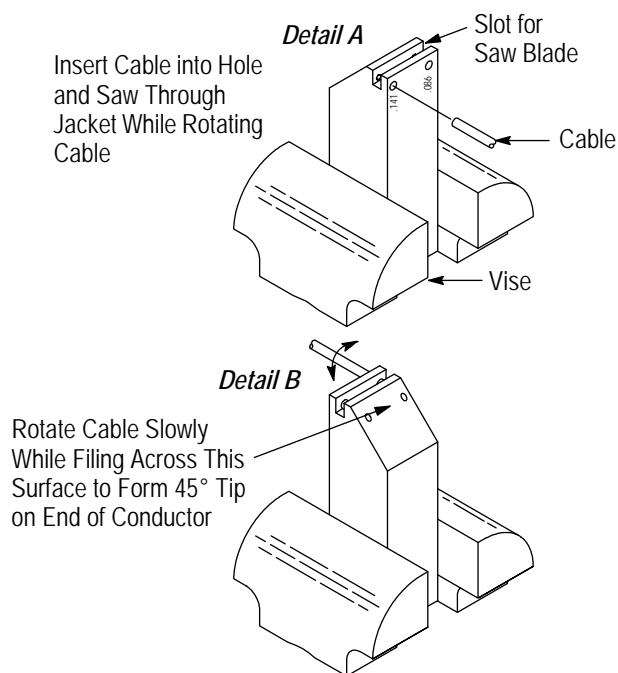

Figure 5
2. Insert the cable into the hole corresponding to the cable size as shown in Figure 5, Detail A.
4. Re-insert the cable into the cable dressing fixture for pointing. Refer to Figure 5, Detail B. Keep pressure against the fixture and rotate the cable slowly while filing on the 45° surface with a small pillar file or mill file. Continue filing until the conductor offers no resistance to the file.